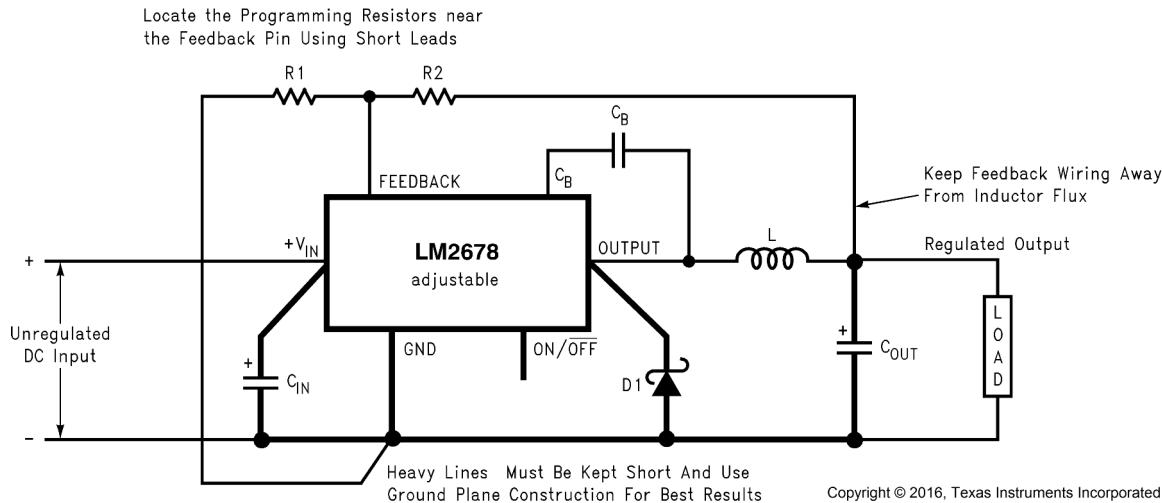

Figure 7-7. Basic Circuit for Adjustable Output Voltage Applications
Step 2: Select an LM2678S-ADJ. To set the output voltage to 14.9-V two resistors need to be chosen (R1 and R2 in Figure 7-7). For the adjustable device the output voltage is set by Equation 1.